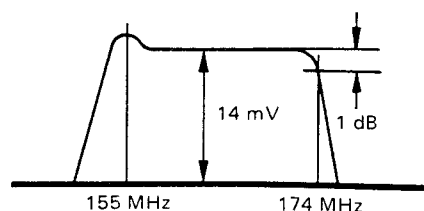

Figure 3
- (4) Tune the receiver to 155.000 MHz, set the sweep generator center frequency to 164 MHz, and adjust T8001 – T8005 for the passband waveform shown in Figure 3.
- (5) Remove the test equipment and replace pin 5 of P52.